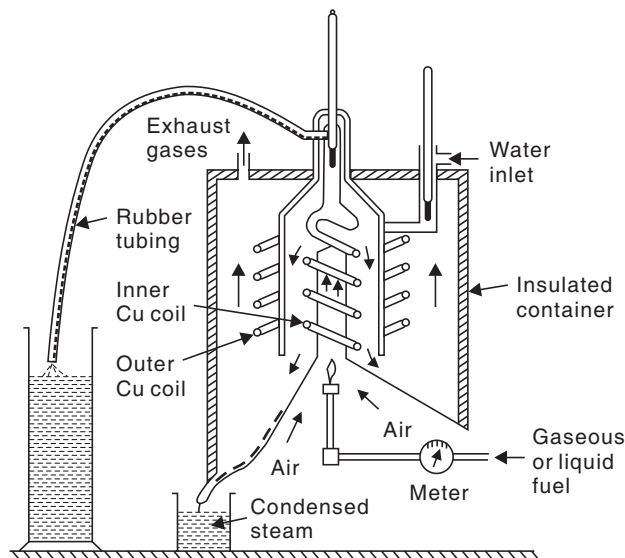

Fig. 18.2 Boy's gas calorimeter.
**Boy's Gas Calorimeter.** It is used for measuring the calorific value of gaseous and liquid fuels (Fig. 18.2).
In the apparatus (Fig. 18.2) known volume of gas is burnt at a uniform rate by a burner. Around the burner there is a chimney containing coils wherein water at a constant rate is passed. Separate thermometers measure the incoming and outgoing water temperatures ( $t_1$  and  $t_2$ ).